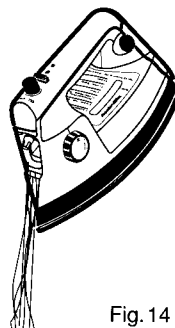

Fig. 14
2. To empty, tilt the iron slowly over a sink to a nose down position with the steam vents facing away from you. The water will run out of the Water Tank Opening* (Fig. 14).